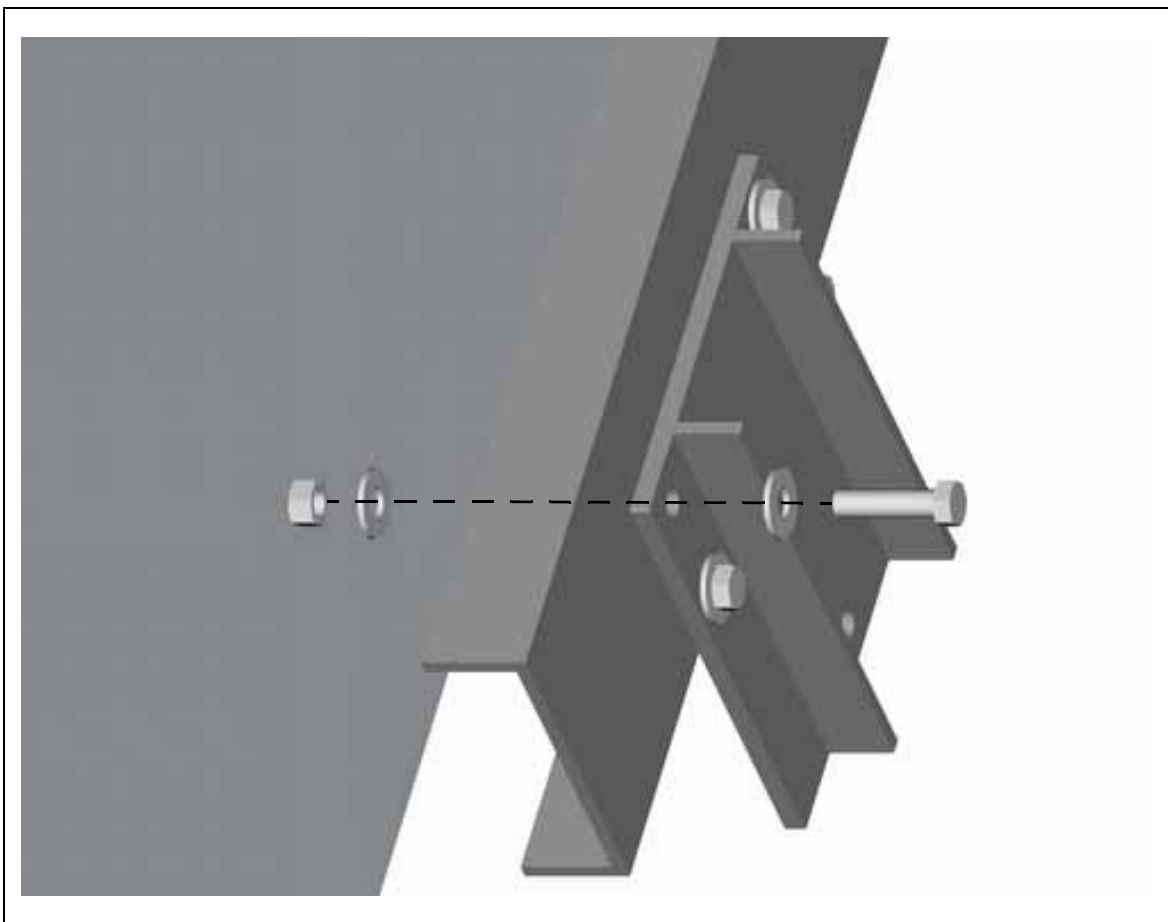

Fig. 5: Fix the installation frame with screws
6. Fix the installation frame with screws (Fig. 5).